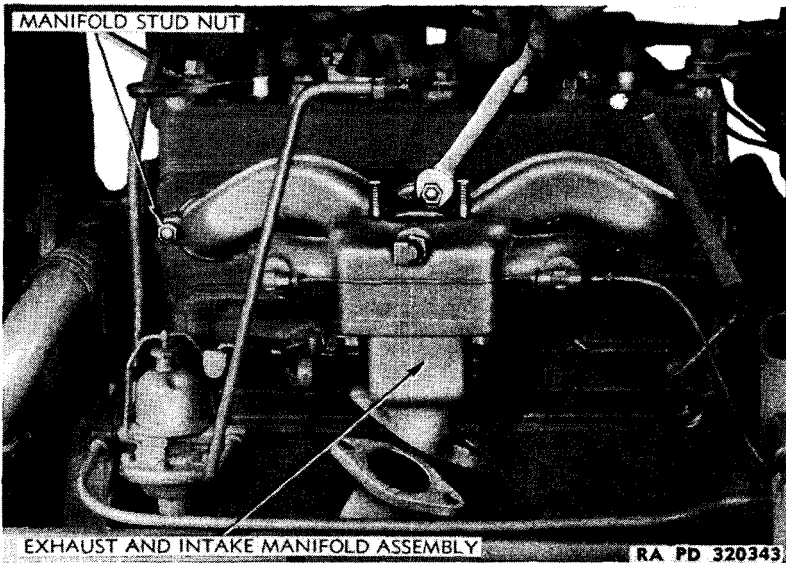

Figure 42—Removing Manifold
(3) **REMOVE MANIFOLD ASSEMBLY.** Disconnect muffler from manifold by removing one bolt and one cap screw. Leave muffler resting on engine bottom guard. Disconnect engine primer line at tee fitting on rear of intake manifold. Disconnect crankcase ventilator tube at both ends and remove tube. Remove seven nuts holding manifold to cylinder block (fig. 42). Remove two convex washers from two center bottom studs. Remove manifold assembly and gasket.